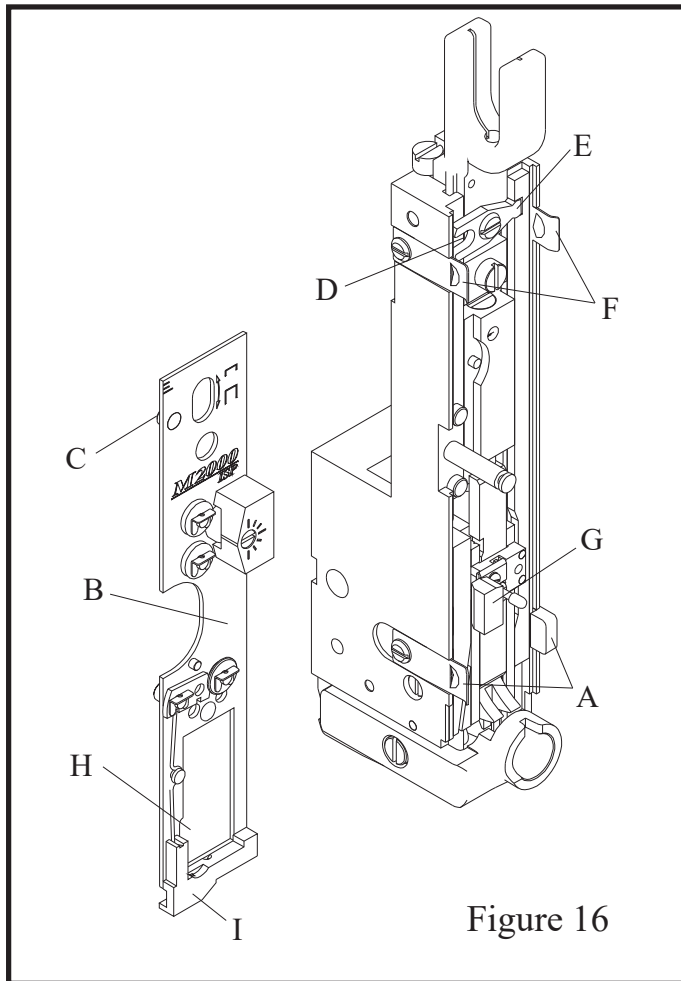

Figure 16
NOTE: (Fig. 16)
7. Loosen the two face plate retaining clips (Index A, Figure 16) and rotate them downward.